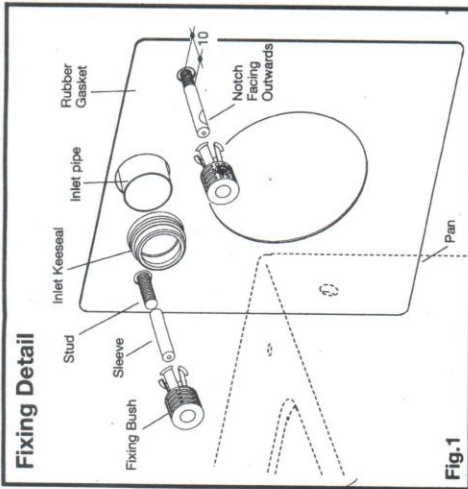

Fig.1
- 7- Fix the mounting sleeves onto fixing studs so that 10mm[3/8"] of thread is exposed in front of the gasket, as detailed in Fig. 1.